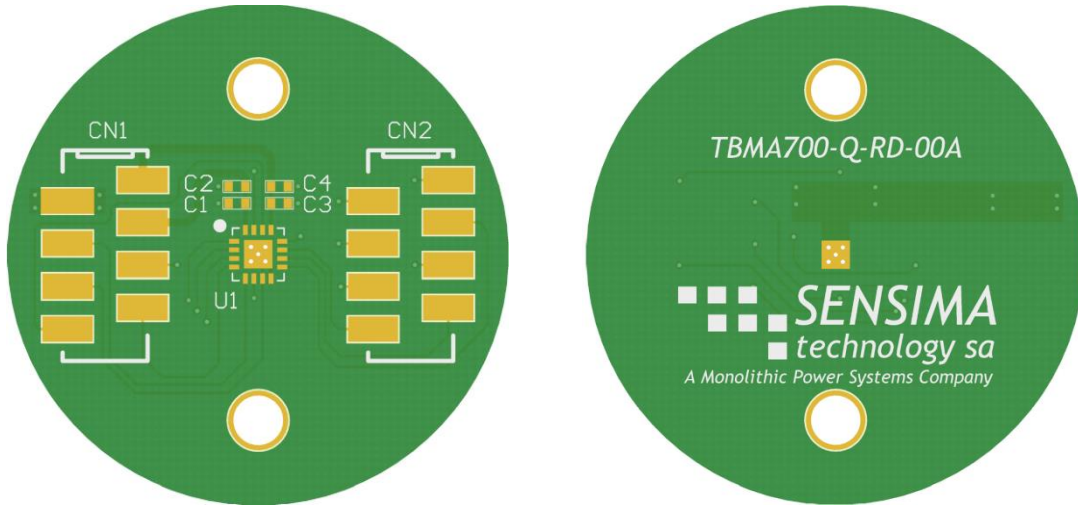

Figure 3: RD Type 1 Board Overview
Figure 3 shows an overview of the Type 1 round (RD) board.